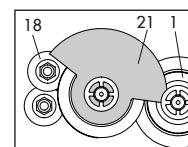

Fig. 5-8: Contact cam unit
8. Slide the contact cam unit (21) onto the spindle corresponding with the position of the actuator stem as illustrated in Fig. 5-8. Make sure that the outermost cog of the contact cam unit engages in the gearwheel of the intermediate gear (1). In addition, the adjustment gears (18) must engage properly in the corresponding gears of the contact cam unit (21).
9. Secure the contact cam unit (21) and intermediate gear (1) with the serrated ring (3); push down the serrated ring as far as it will go.
10. Position the terminal board (17) at the base of the support at a 45° angle (approx.) with the switches pointing towards the gears. Swivel the upper end of the terminal board towards the gears until the board is in a vertical position and properly engaged in the support.
11. Slide the actuator board (12) back into its guiding. Make sure that all the gears are properly engaged. Fasten the board using screws.